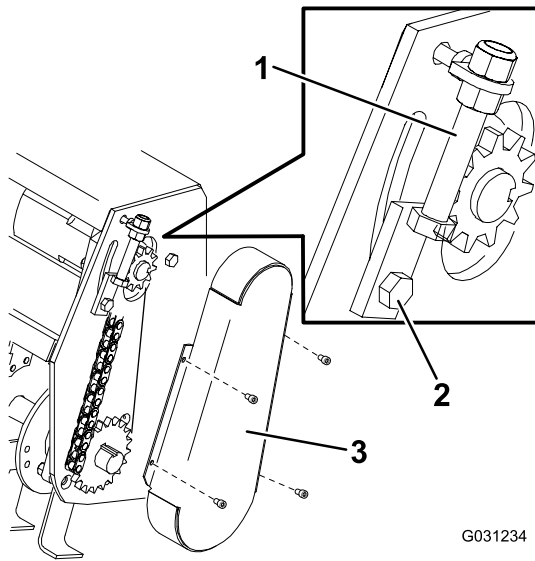

Figure 2
2. Remove the chain-drive cover (Figure 2).
3. Loosen the 2 hydraulic motor, mount-plate bolts (Figure 2).
4. Using the adjuster bolt, move the hydraulic motor upward to tighten the chain (Figure 2).
- After you have set the chain to the proper tension, tighten the adjuster bolt and hydraulic motor mount-plate bolts (Figure 2).